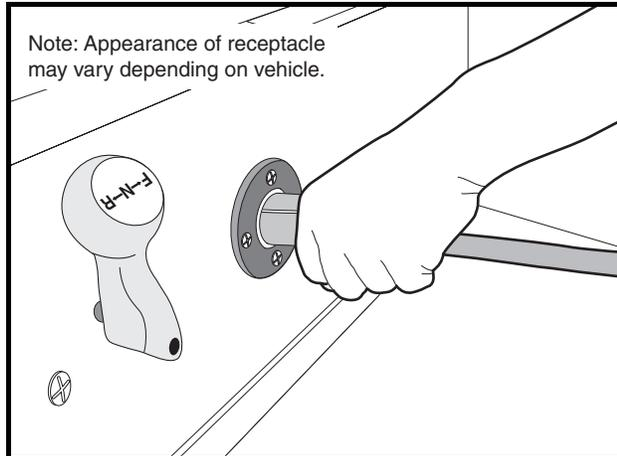
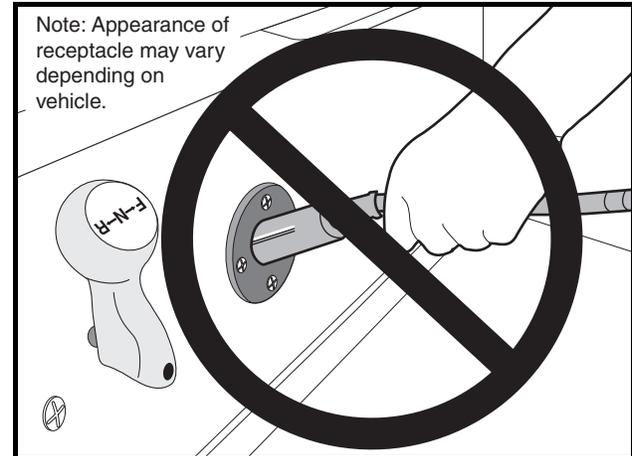

Figure 3-5 Charger Receptacle
Figure 3-6 Incorrect DC Plug Removal
- The battery charger DC plug must be pulled slowly from the receptacle (Figure 3-5, Page 3-6). Jerking or pulling the DC cord out quickly could cause arcing that could damage the plug and receptacle and could cause batteries to explode (Figure 3-6, Page 3-6).
- Do not rock or bend the plug. To connect the charger plug to the vehicle receptacle, grasp the plug handle and push the plug straight into the receptacle (Figure 3-5, Page 3-6).
- Do not pull on the DC cord (Figure 3-6, Page 3-6). Do not twist, rock or bend the plug. To disconnect the charger plug from the vehicle receptacle, grasp the plug by the handle and pull the plug straight out of the receptacle.
2. Connect the charger DC plug to the vehicle charger receptacle located on the seat support panel (**Figure 3-5, Page 3-6**). The charger will activate automatically within 2 to 15 seconds after the DC plug is connected. **See following WARNING.**
- **Do not rock or bend the DC plug. To connect the charger plug to the vehicle receptacle, grasp the plug handle and push the plug straight into the receptacle (Figure 3-5, Page 3-6).**